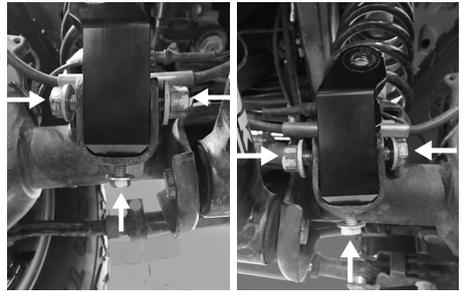

Fig. 6 Driver's side (Left), Passenger's side (Right)
- Once the left side and right side blocks have been determined and the assembly holes have been drilled out, install the relocation blocks loosely in the OEM lower shock mount (Fig 6).